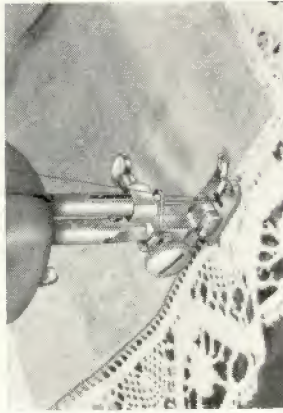

Fig. 52.
3. Place the edge of the lace close along the folded edge of the material and sew with zigzag stitches. Make sure that the needle stitches alternately into the material and the lace (Fig. 52).